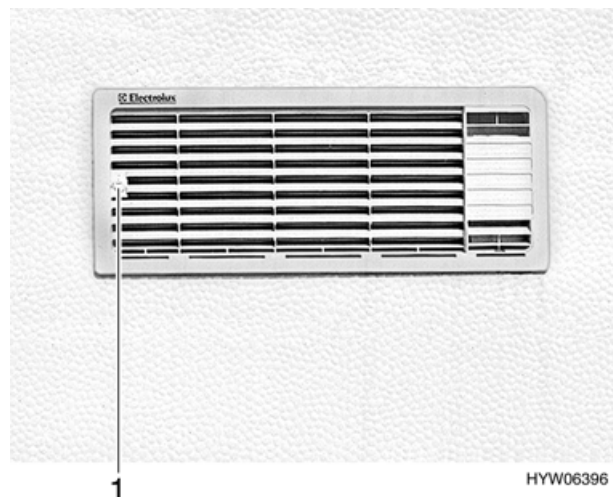

Fig. 80 Refrigerator ventilation grill
- Turn screw (Fig. 80,1) one quarter turn using a coin.